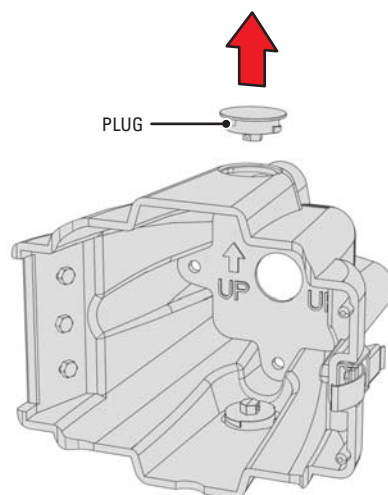

Figure 14. Removing an Auxiliary Opening Plug
5. *If using an auxiliary opening for cables:* Remove the plug from the appropriate opening in the J-box (refer to Figure 14). Use a 7/16-inch wrench.